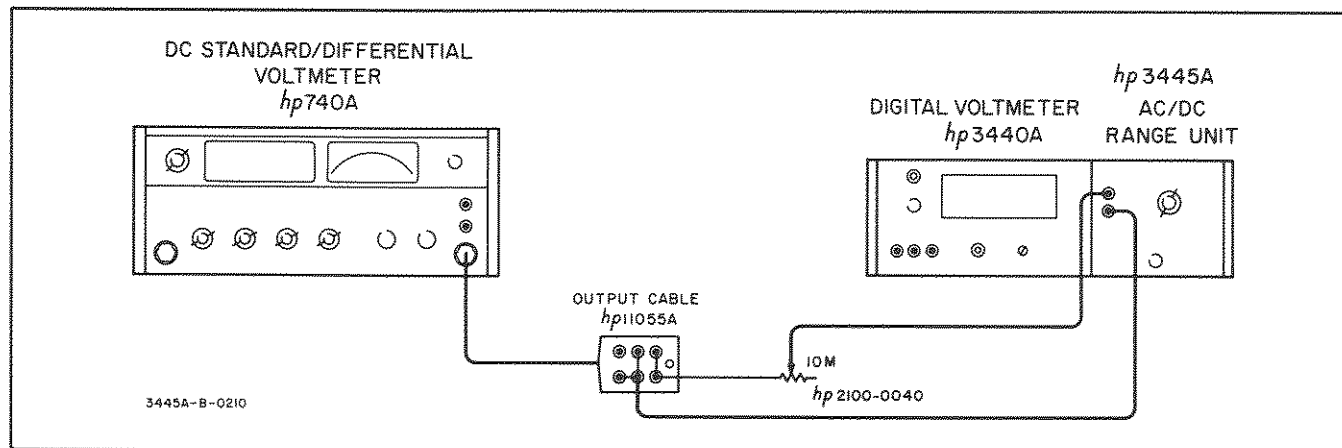

Figure 5-1. DC Accuracy Check
- Figure 5-1 describes the test arrangement recommended. A DC Standard (-hp- Model 740A) and a variable resistor, 0 to 10 M ohms (-hp- 2100-0040) will be required.